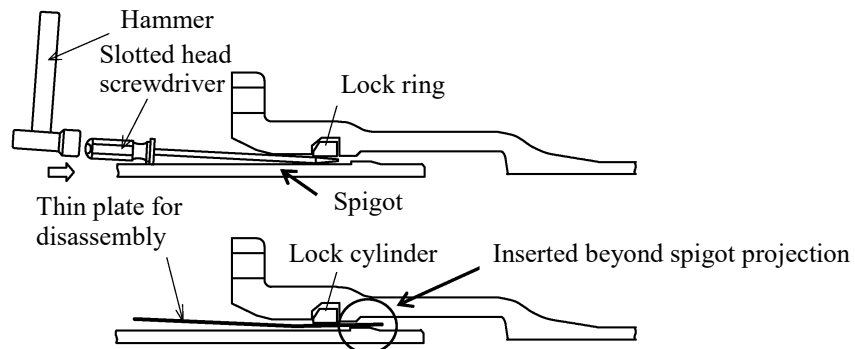

Figure-47 Inserting thin plates for disassembly
- (2) Remove the rubber gasket and the backup ring. Do not use them for jointing work again. If you use them again, it will lead to leaks.
- (3) As illustrated in Figure-47, drive a slotted head screwdriver in between the lock ring and the spigot, and then insert approximately six thin plates for disassembly into the clearance in the circumferential direction. The thin plates shall be inserted beyond the spigot projection.